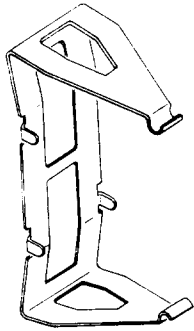

Fig. 3—4B Cover Clip
- 3.07** *4B Cover clip*, Fig. 3, is used to minimize displacement of operating cards, contact covers, and contact springs of wire spring relays during shipping and handling.